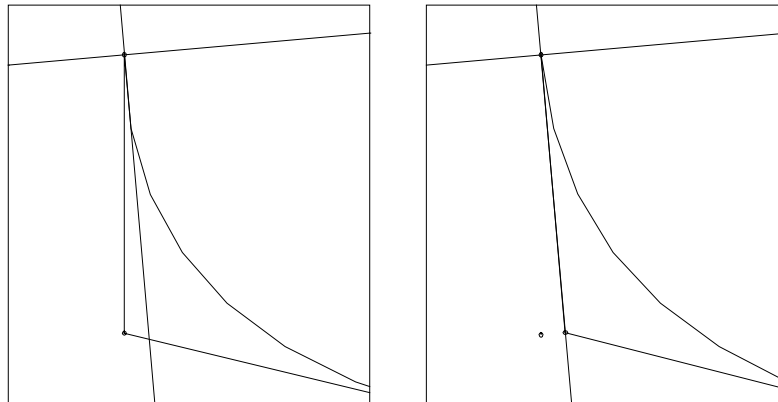

Fig. 3
- 3 **Double-click** 'curve1' and on the **Display** tab, turn on the curve's **Polyline**. Notice that the polyline is not perpendicular to 'xpl7' (Fig. 3 Left).
- 6 **<Shift+A>** or **Tools>Adopt Children**, and click the **Reverse Order** box; **OK**. The Projected Point, having adopted all the children of 'pt1', is now the second control point of 'curve1' and the curve ends normal to 'xpl7' (Fig.3 Right).